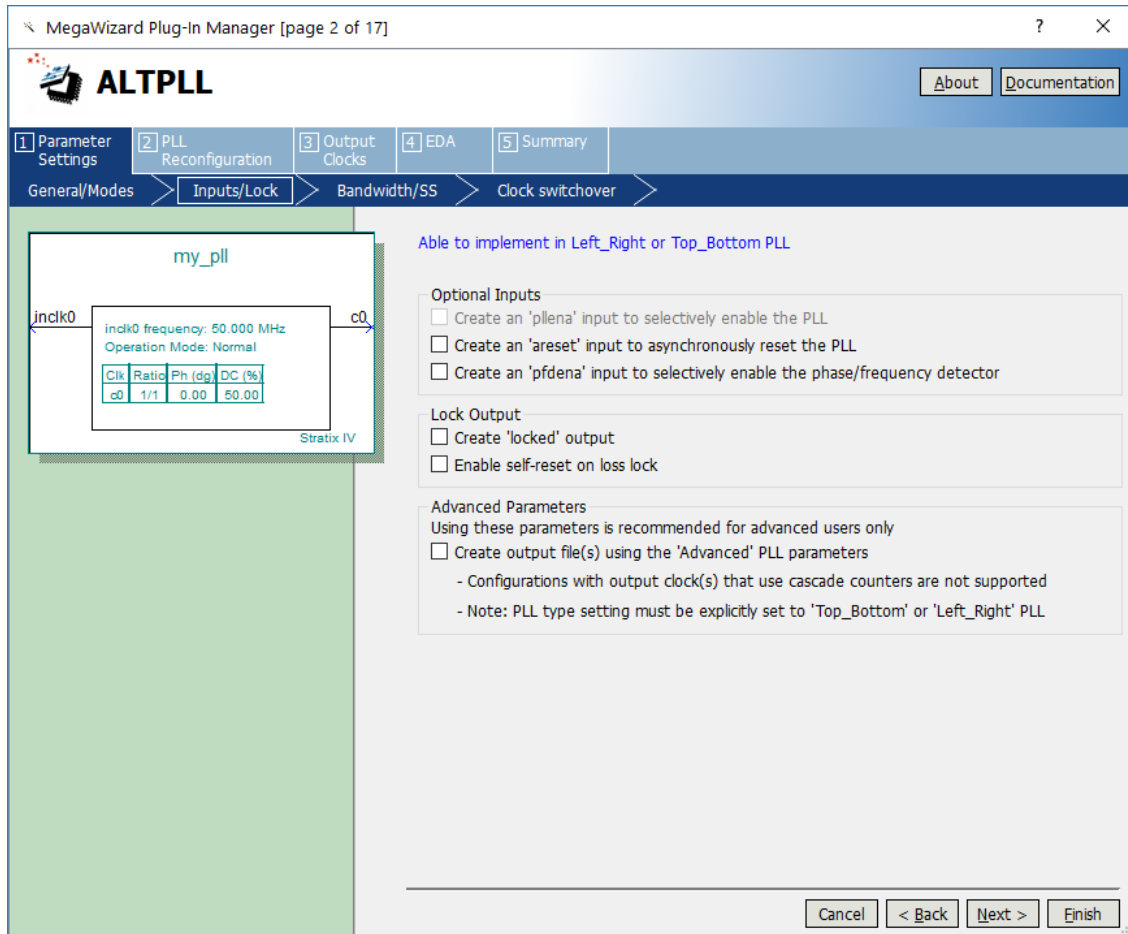

Figure 15. Settings for Input/Lock section.
- Uncheck the checkboxes of **Create an 'areset' input to asynchronously reset the PLL** and **Create 'locked' output** as shown in Figure 15.